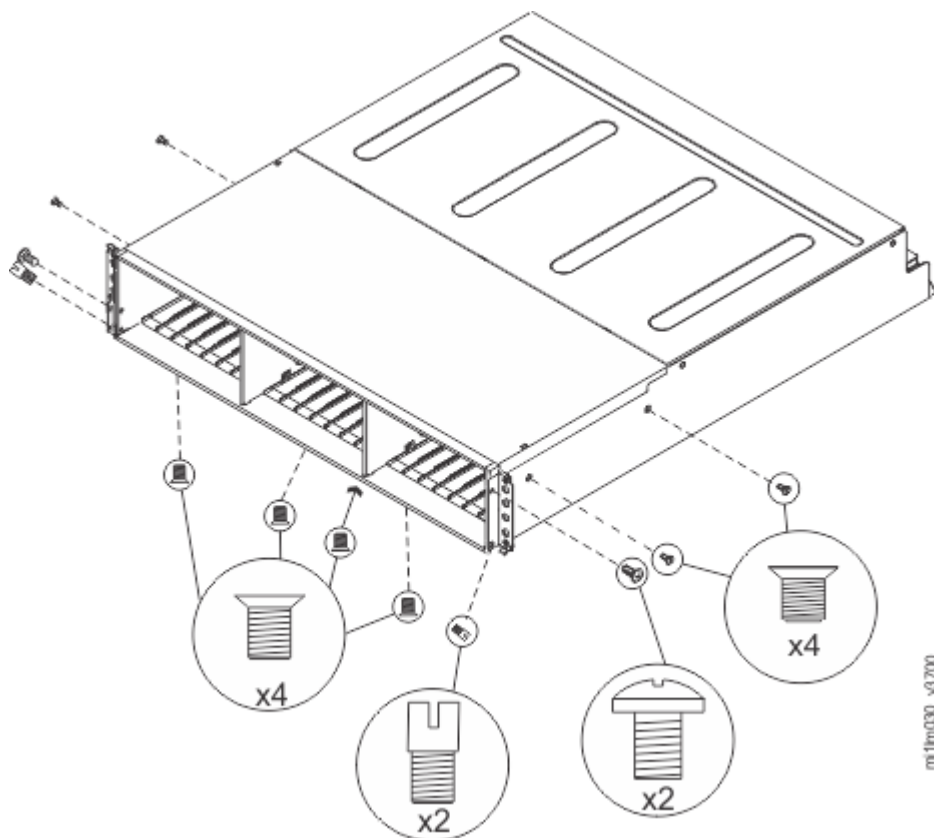

Figure 120. Removing the screws of an expansion enclosure assembly
12. Remove the four screws from the bottom of the enclosure (see Figure 120 on page 186). Remove the three screws that are near the front and the screw that is near the middle. Label these screws to indicate the location from which they are removed and place them aside.
14. Remove the three screws and one screw-pin on the right side that secure the midplane assembly to the enclosure (see Figure 120 on page 186). Label the screws to indicate the location from which they are removed and place them aside.
15. Remove the three screws and one screw-pin on the left side that secure the midplane assembly to the enclosure (see Figure 120 on page 186). Label the screws to indicate the location from which they are removed and place them aside. See Figure 4.